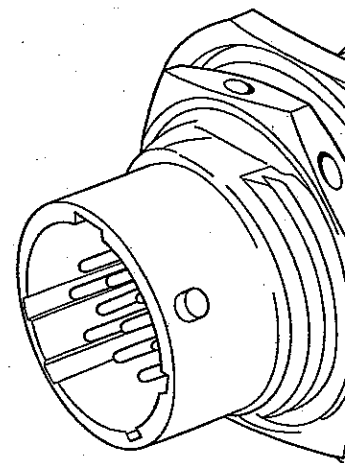

Fig 14 467 Jam nut receptacle
12.1 The 467 jam nut receptacle (Fig 14) with crimped type contacts conforms to MS3124 specification and is single hole panel mounted.